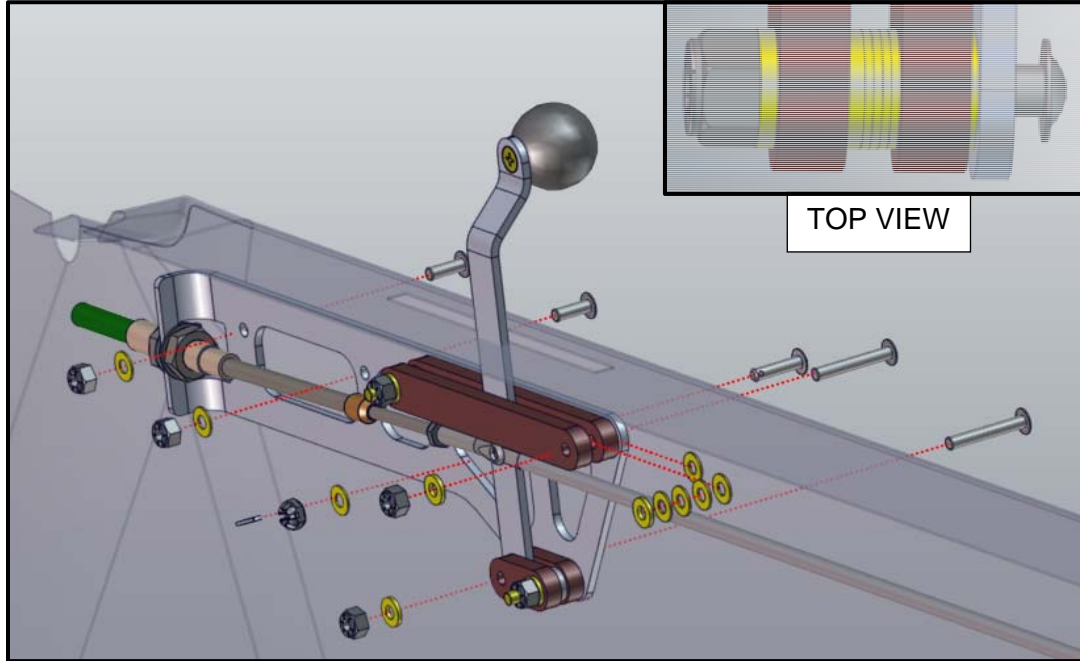

FIGURE 3 – Throttle Linkage Rod and Hardware Removal
- g. Remove four bolts securing the pilot’s throttle assembly from the left forward panel. There are multiple spacers on each bolt, use care to ensure hardware is not dropped (see Figure 3).